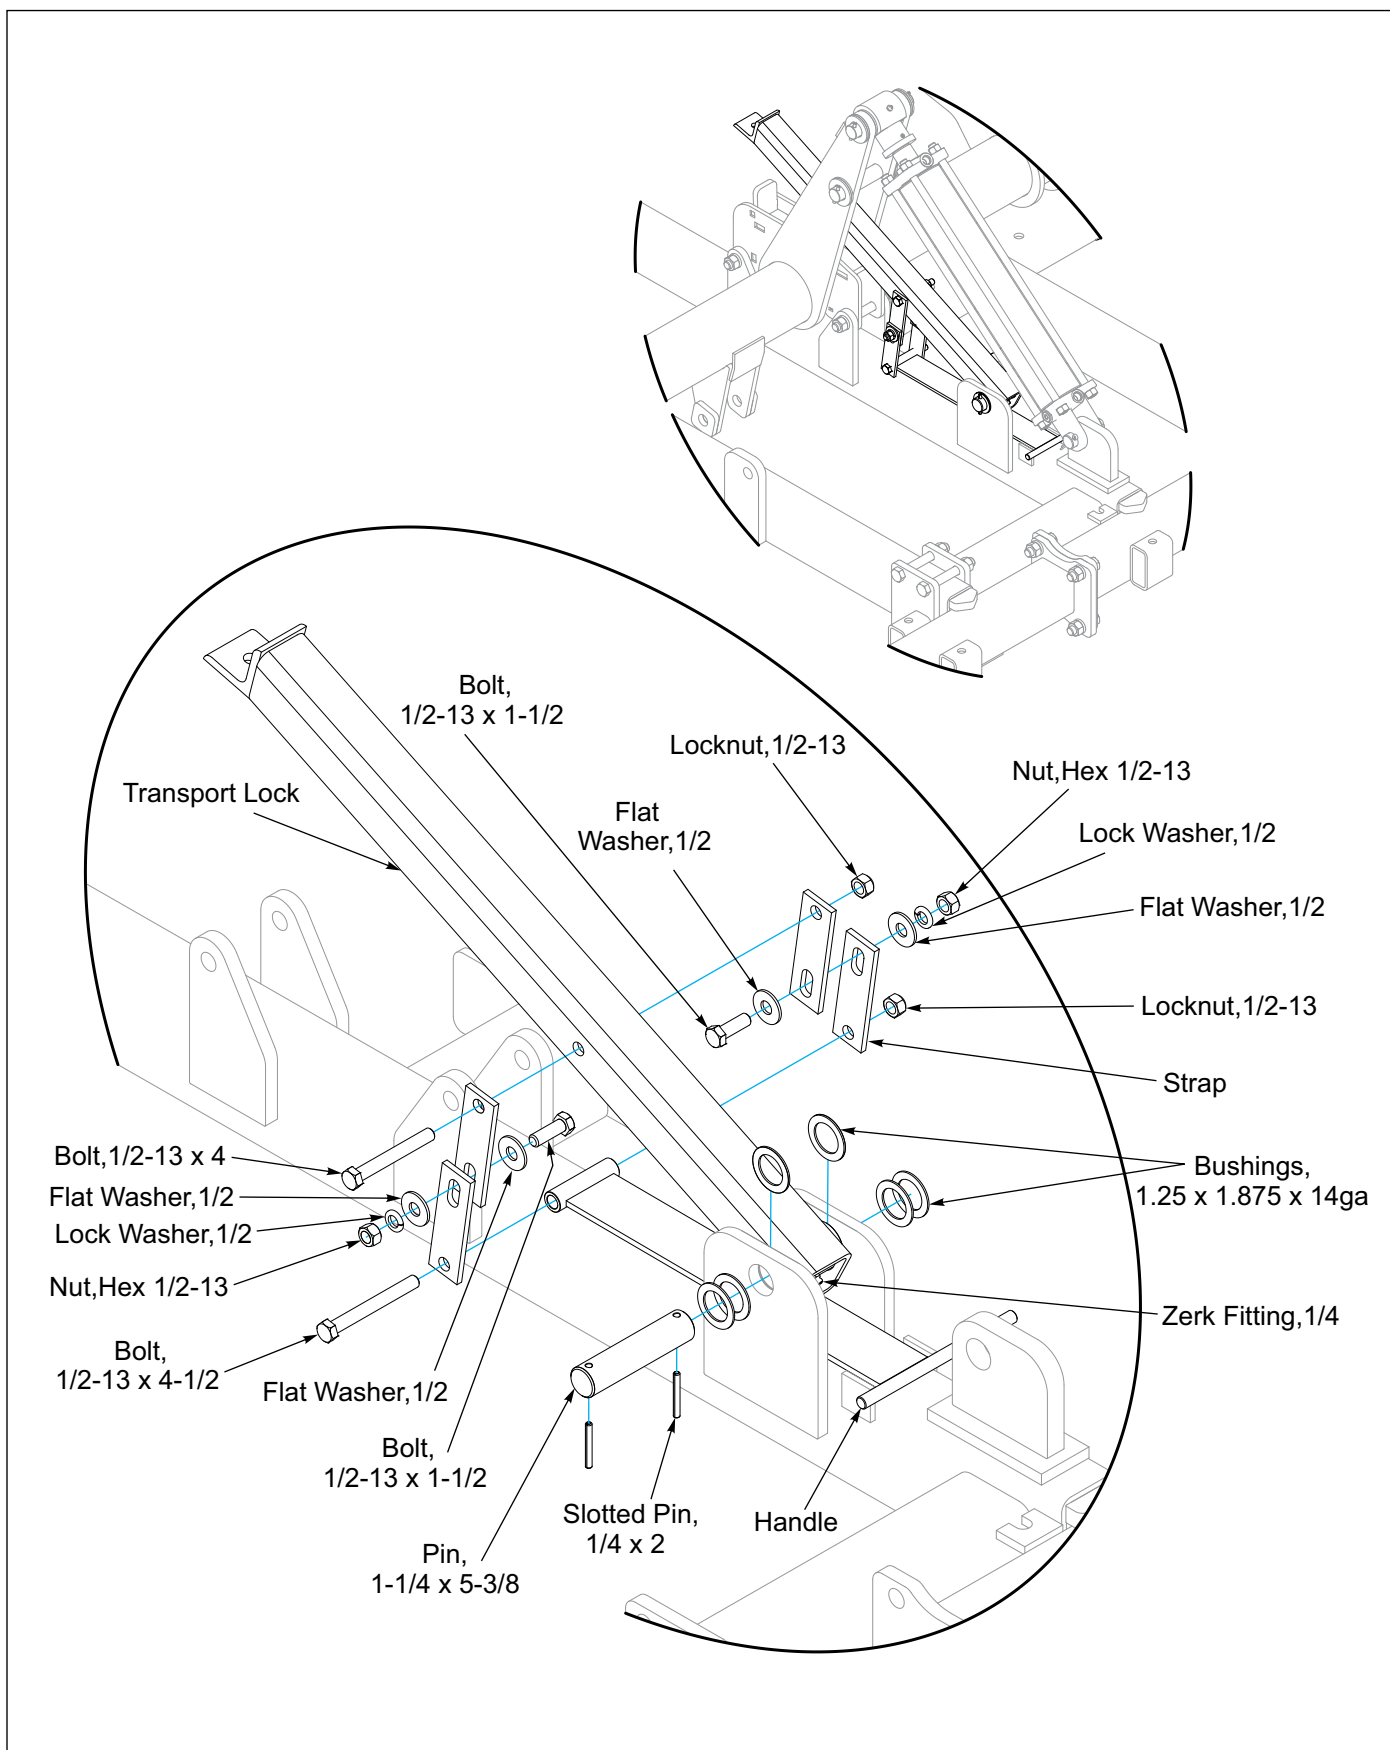

Figure 2-10: Transport Lock
1. Orient the Transport Lock Handle solid round longer end towards the left and the front of the machine. Place Handle between the LH Frame Lugs underneath the Hydraulic Cylinder so that it lays flat on the frame tube and the solid round end rests against the Frame Stops. **See Figure 2-10.**